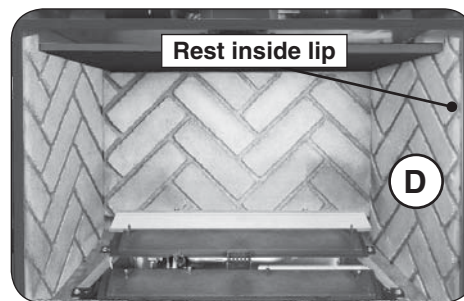

Fig. 32-1 Place right liner
7. Place the right liner in the right side of the unit. Ensure it completely rests inside of the front lip of the unit. See Fig. 32-1, "D".